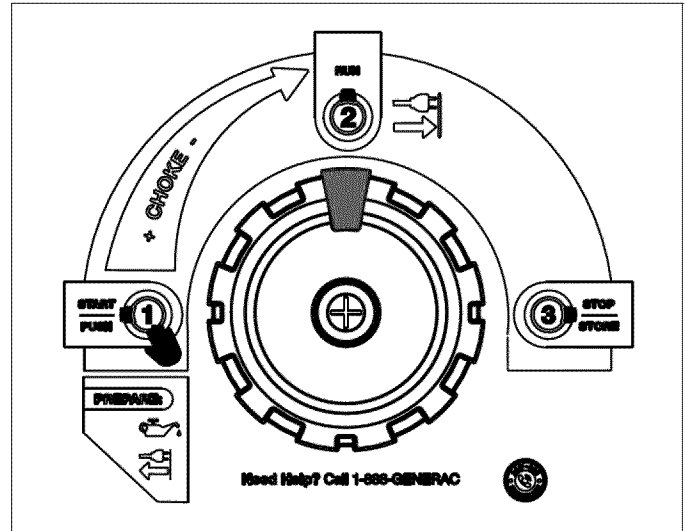

Figure 3-3. PowerDial RUN Position
3. See Figure 3-3. When the engine starts, rotate the PowerDial gradually clockwise, until the engine runs smoothly, and then fully to the RUN position. Choke operation is reduced as the Power Dial is rotated towards the RUN position. If engine falters, rotate the PowerDial counterclockwise to the START position, to increase the choke, until the engine runs smoothly and then rotate it to the RUN position.
3. See Figure 3-3. When the engine starts, rotate the PowerDial gradually clockwise, until the engine runs smoothly, and then fully to the RUN position. Choke operation is reduced as the PowerDial is rotated towards the RUN position. If engine falters, rotate the PowerDial counterclockwise to the START position, to increase the choke, until the engine runs smoothly and then rotate it to the RUN position.